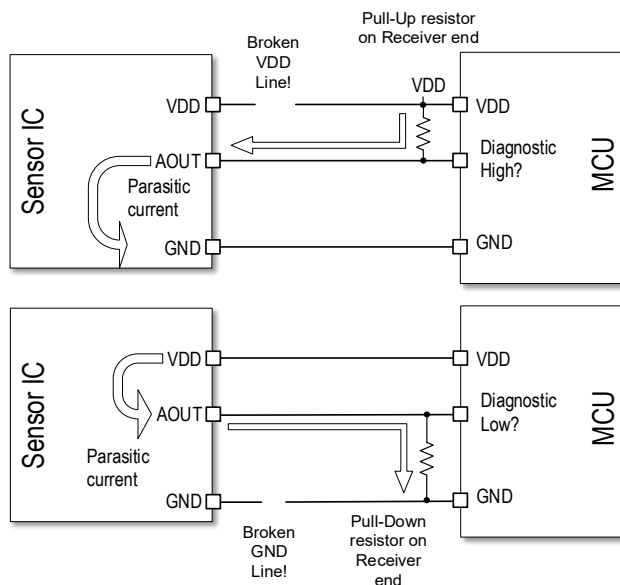

Figure 35. Parasitic Currents on Analog Outputs with Broken VDD or Broken GND Lines
Most broken supply, broken GND, or analog output signal connection errors can be detected by monitoring the DC voltage levels at the analog output pin AOUT, see the uncritical error cases on Figure 35. If a diagnostic error or broken signal wire occurs, the DC voltage level at the affected pin is pulled into the diagnostic range (diagnostic high:  $V_{OUT} > 95\% V_{DD}$  or diagnostic low:  $V_{OUT} < 5\% V_{DD}$ ) through the external pull-up/pull-down resistors.
- a broken VDD supply wire with external pull-up resistors at the receiving end, see Figure 35.
- a broken GND wire with external pull-down resistors at the receiving end, see Figure 35.